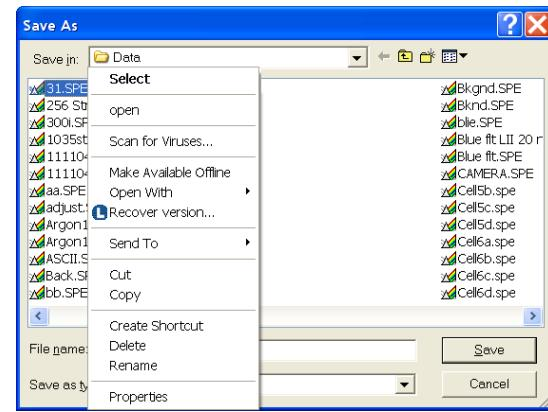

Figure 54. Right-click File Operations menu
- Position the mouse cursor on the name of the file you want to delete and click the *right* mouse button. This will open the “right-click” **File Operations** menu, as shown in Figure 54.